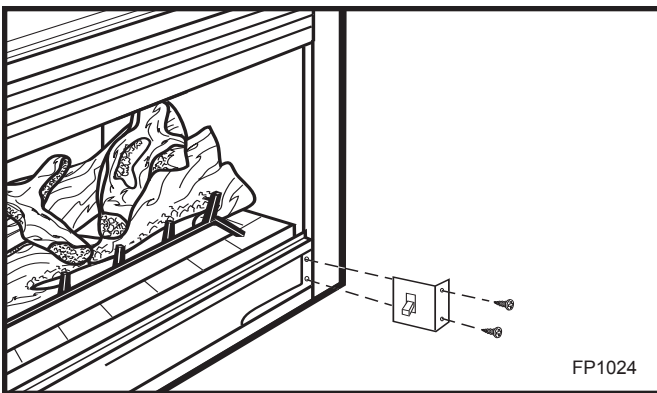

Fig. 8 Alternate switch location.
2. The gas control inlet is 3/8" NPT. typical installation layout for rigid pipe is shown in Figure 8.
The remote switch can be installed on either side of the access door. Mount the switch to the switch bracket provided. Screw the bracket on either side of the frame, line up the screws with the pre-punched holes. (Fig. 8)